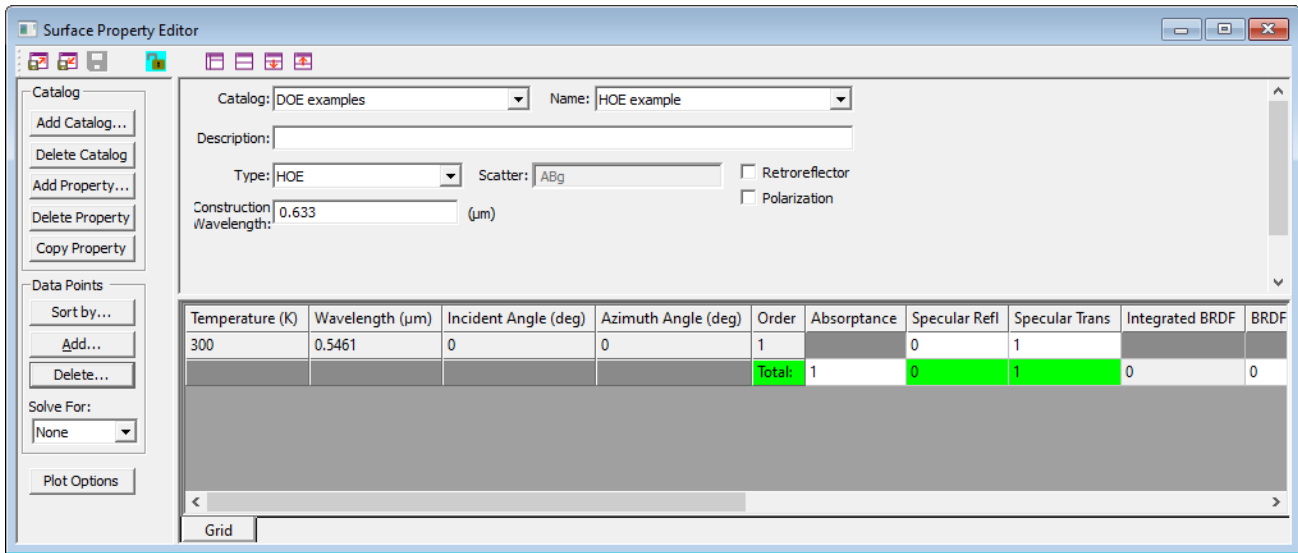

Figure 8. Surface Property Editor showing the completed HOE type surface property.
7. In the data grid, set the *Specular Trans* value for Order 1 to 1.0 and the absorptance to zero. All of the flux incident on the surface will be directed into the Order 1 transmitted beam. The completed property should appear as in Figure 8. Save the property and close the **Surface Property Editor** window.